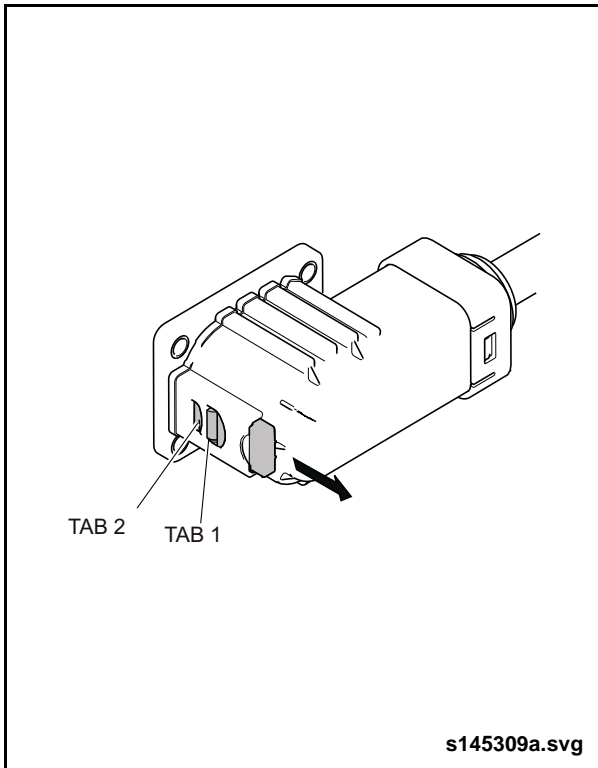

Fig. 14: Release Connector Tab #1
- a. Pull tab #1 up. See "Fig. 14: Release Connector Tab #1" on page 11.